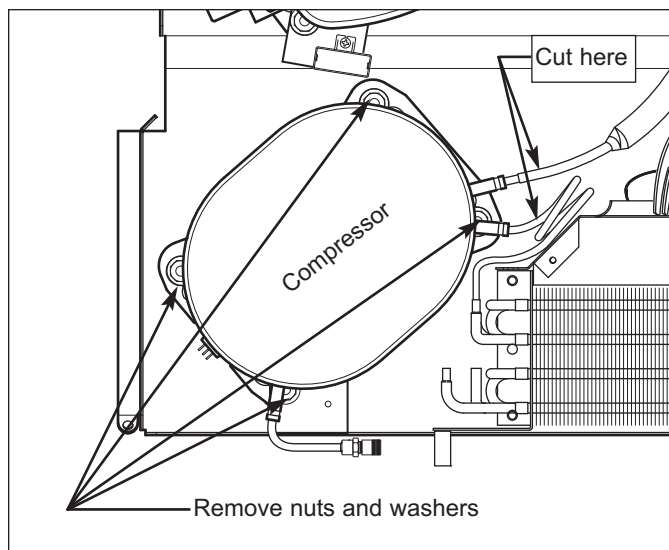

Figure 7-50. Compressor Removal
3. Remove compressor by cutting the inlet and outlet tubing with a tube cutter, approximately one inch from the compressor ports. (See Figure 7-50)
4. Extract nuts and washers from the threaded studs, then lift compressor off of studs. (See Figure 7-50)